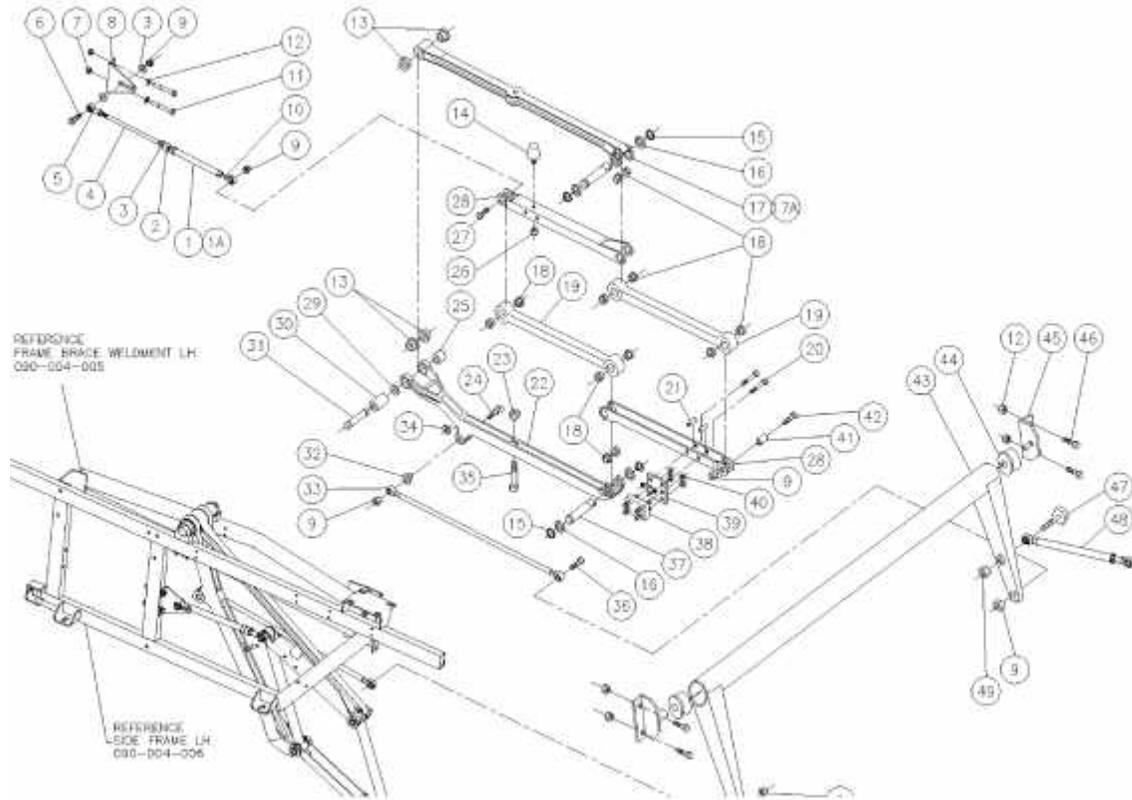

Figure 6
4. Item 48 in figure 6 is the sweep travel rod. This rod's length determines how far the sweep travels rearward. Where do you position the sweep to make this adjustment?